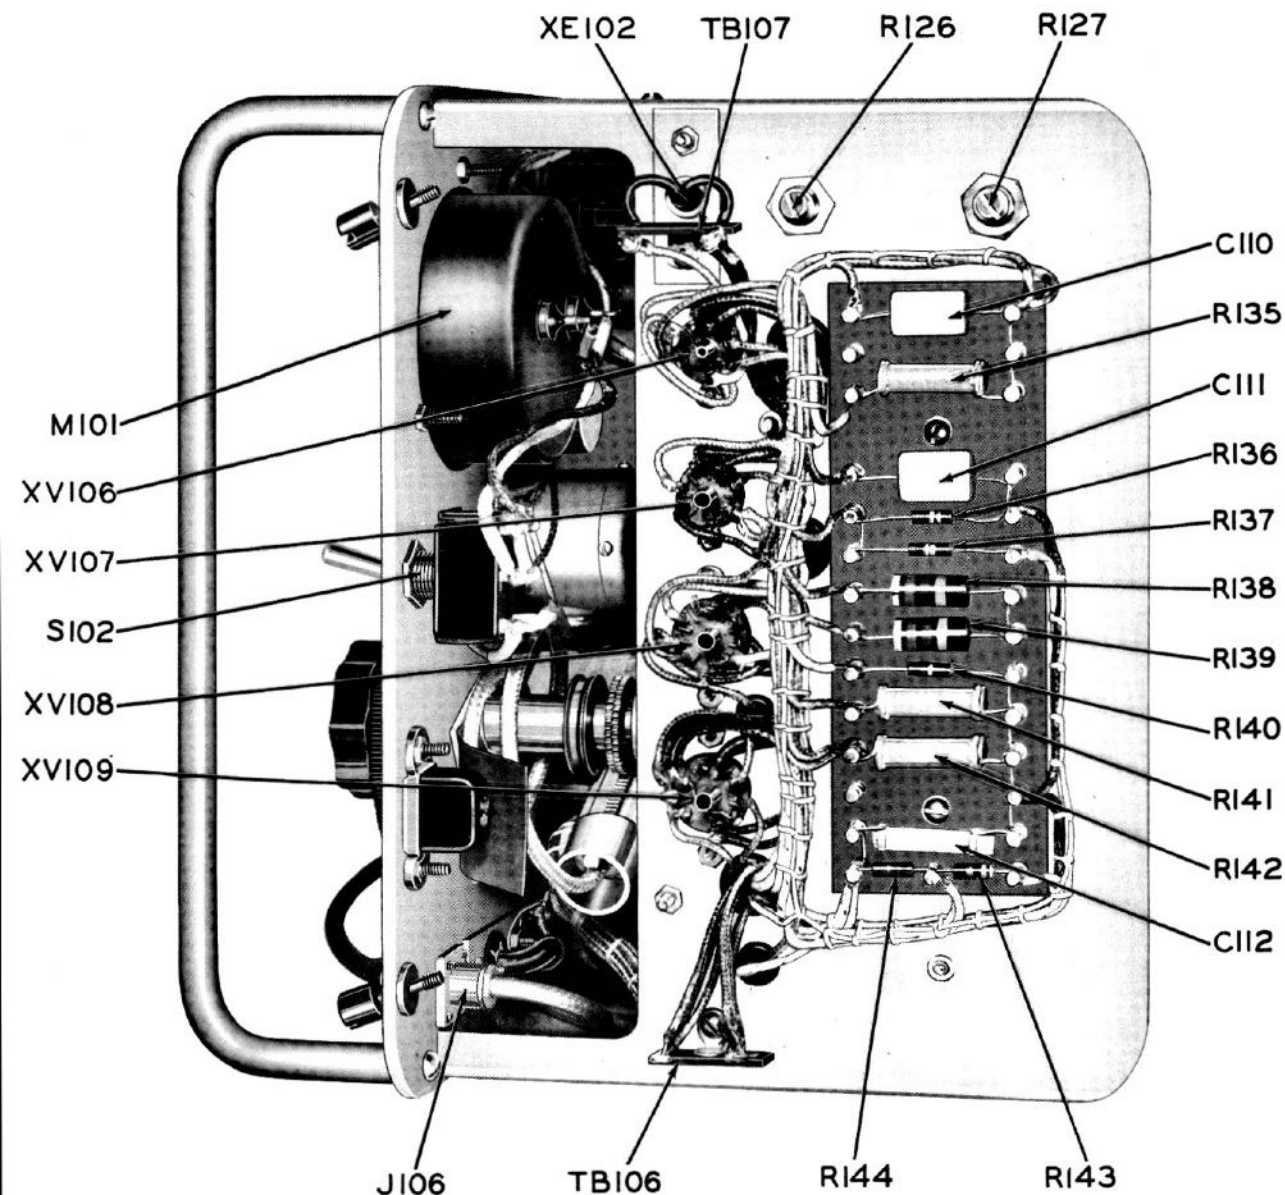

Figure 7-4. RF Signal Generator SG-45A/URM-26, Side View
a. When V-108 is replaced, meter zero must be reset by means of OUTPUT METER ZERO resistor R-127, see figure 7-4.
- (1) Operate instrument for approximately 15 minutes to permit stabilization of tube characteristics.
- (2) Place METER switch in OUTPUT position.
- (3) Remove tube V-109 from its socket.
- (4) Adjust OUTPUT METER ZERO resistor R-127, with screwdriver, to bring meter pointer to red line.
- (5) Replace tube V-109.
(3) Adjust OUTPUT index until Barretter Bridge indicates signal generator output is 50,000 microvolts.
(4) Adjust OUTPUT CALIBRATION control R-126 (see figure 7-4) to bring pointer of meter M-101 to red line at center scale.